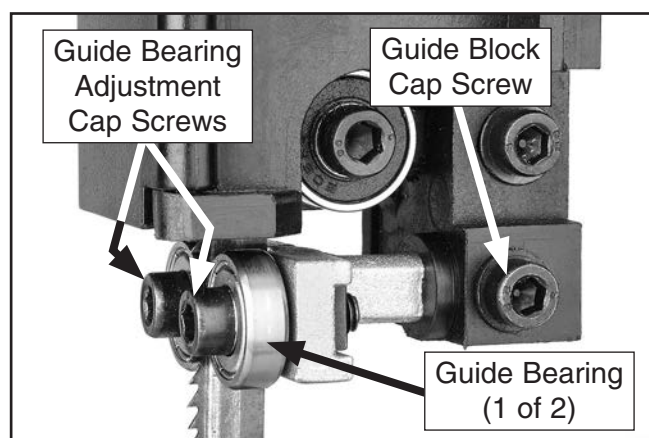
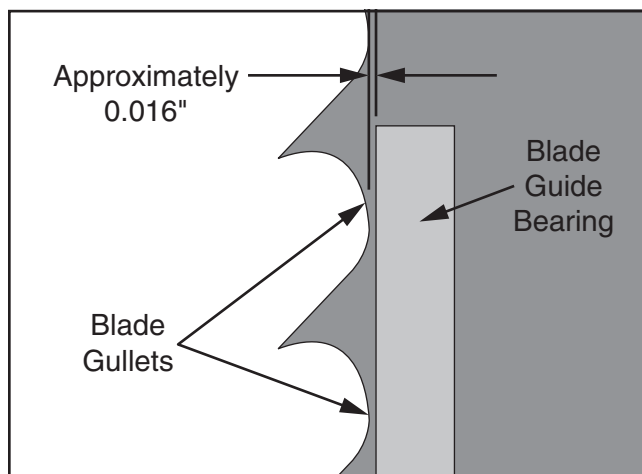
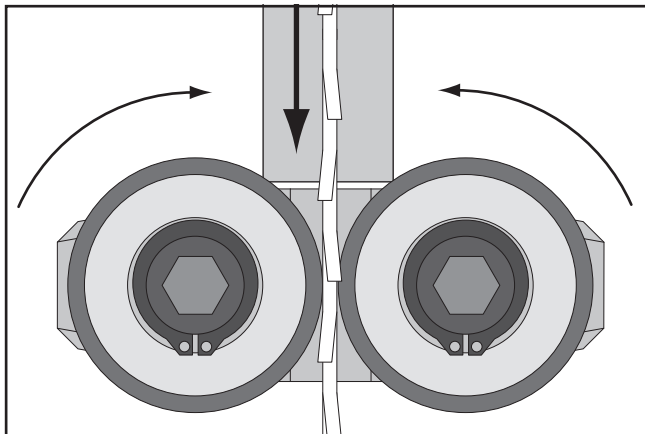

Figure 25. Upper guide bearing components.
Figure 26. Blade guide bearing positioned just behind blade gullets.
Figure 28. Blade guide bearings evenly and lightly touching the sides of the blade.
2. Loosen guide block cap screw shown in **Figure 25**, then laterally position guide bearings just behind blade gullets, as illustrated in **Figure 26**, then re-tighten cap screw to secure setting.
3. Loosen both guide bearing adjustment cap screws (see **Figure 25**), then position guide bearings so they evenly and lightly touch sides of blade (see illustration in **Figure 28**) without deflecting it one way or the other.